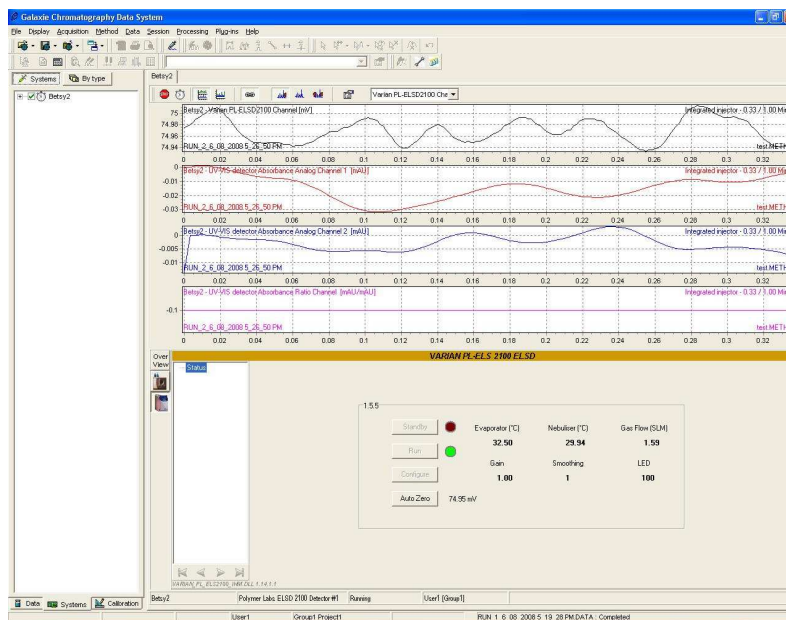

Figure 16: ELSD Communication with the 940 Driver
20. Communication with the ELSD in the standalone driver with a 940-LC instrument (Fig 16).